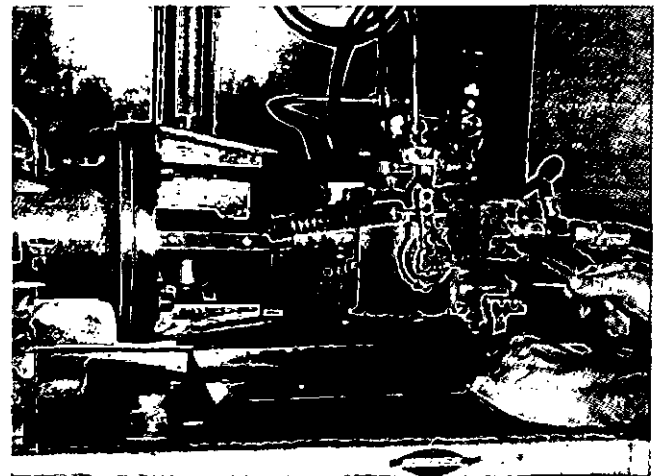

Fig. 10-68, (F5177). Adjust the SVS governor idle.
5. Adjust the rear SVS screw to get the correct SVS idle speed, Fig. 10-68.